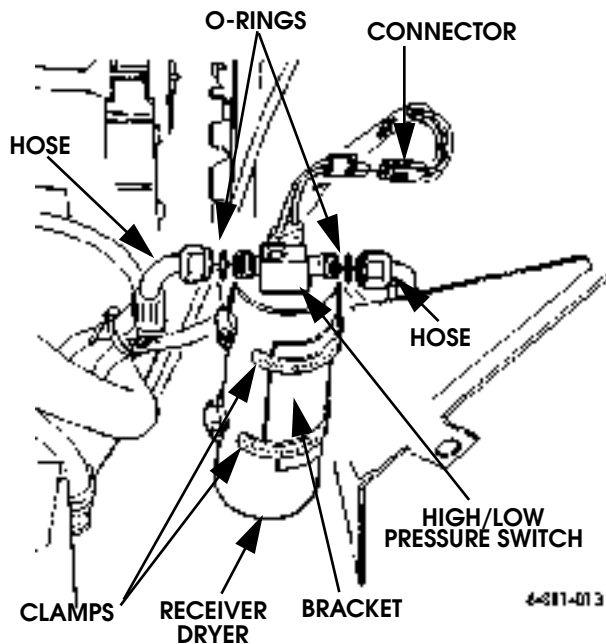

Figure 11-15: Receiver/Dryer
2. Disconnect electrical connector from high/low pressure switch (Figure 11-15).
1. Secure receiver/dryer to bracket with two clamps. Position hose attachment ports to front and rear of vehicle (Figure 11-15).